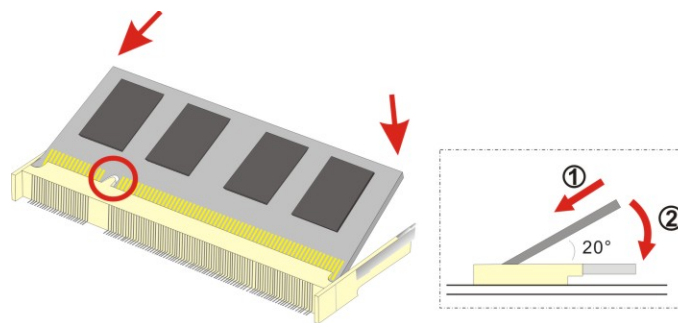

Figure 5-1: SO-DIMM Installation
To install a SO-DIMM into a SO-DIMM socket, please follow the steps below and refer to **Figure 5-1**.
- Step 3: Insert the SO-DIMM.** Push the SO-DIMM chip into the socket at an angle. (See **Figure 5-1**)
- Step 4: Open the SO-DIMM socket arms.** Gently pull the arms of the SO-DIMM socket out and push the rear of the SO-DIMM down. (See **Figure 5-1**)